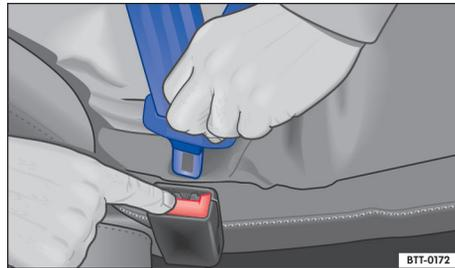

Fig. 28 Removing the seat belt latch plate into the buckle.
- Press the red button in the buckle → Fig. 28. The latch plate is released and springs out.